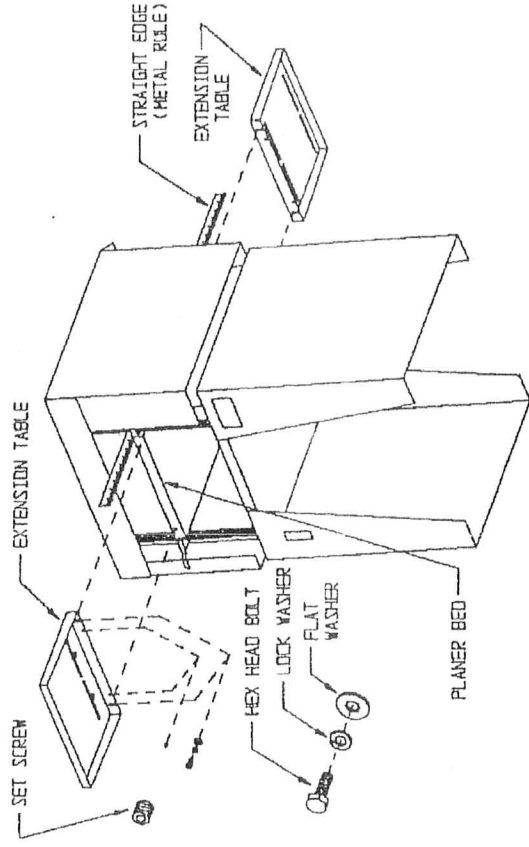

Fig. A-1
1. To install the extension tables first put (1) lock washer then (1) flat washer on each of the (4) bolts. Start the bolts into the threaded holes in the infeed and outfeed ends of the planer bed, leaving at least 1/4 in. between the planer bed and flat washer (see fig. A-1).
4. Install (1) Allen set screw in each of the small holes near the extension table mounting bolts (see fig. A-1).